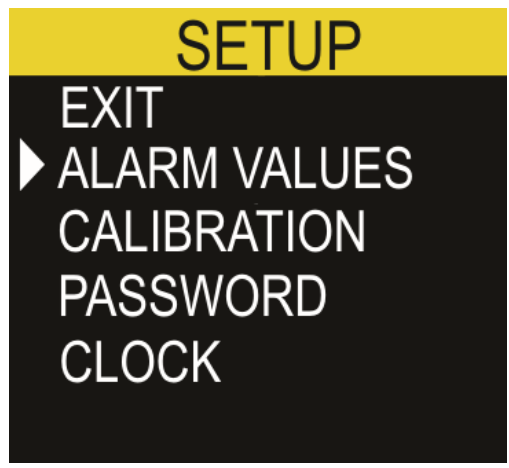

Figure 4. Display in Setup Mode
- carbon monoxide (CO) concentration, ppm – upper left corner of the display;
4. SETUP MODE. Hold the «OK» button on the keypad until the loading bar disappears and you hear a beep. Then, enter the password from 1 to 65535, using the «▲» and «▼» buttons. The password is disabled by default. The setup menu is shown in Figure 4. Press the «OK» button to select a parameter, and «▼» and «▲» buttons to switch between the parameters.